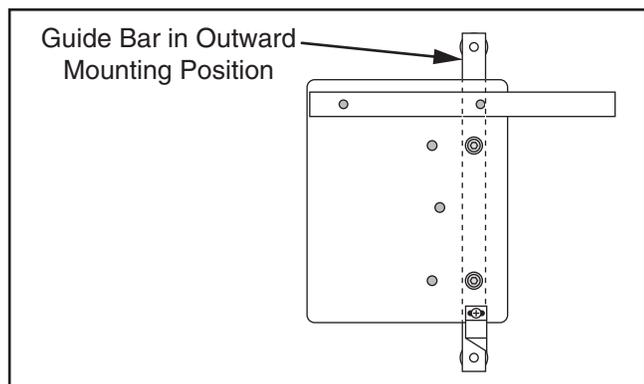

Figure 14. Guide bar in outward mounting position (slide plate shown removed for clarity).
- Perform inward mounting procedure but install guide bar using right row of mounting holes on base plate (see **Figure 14**).